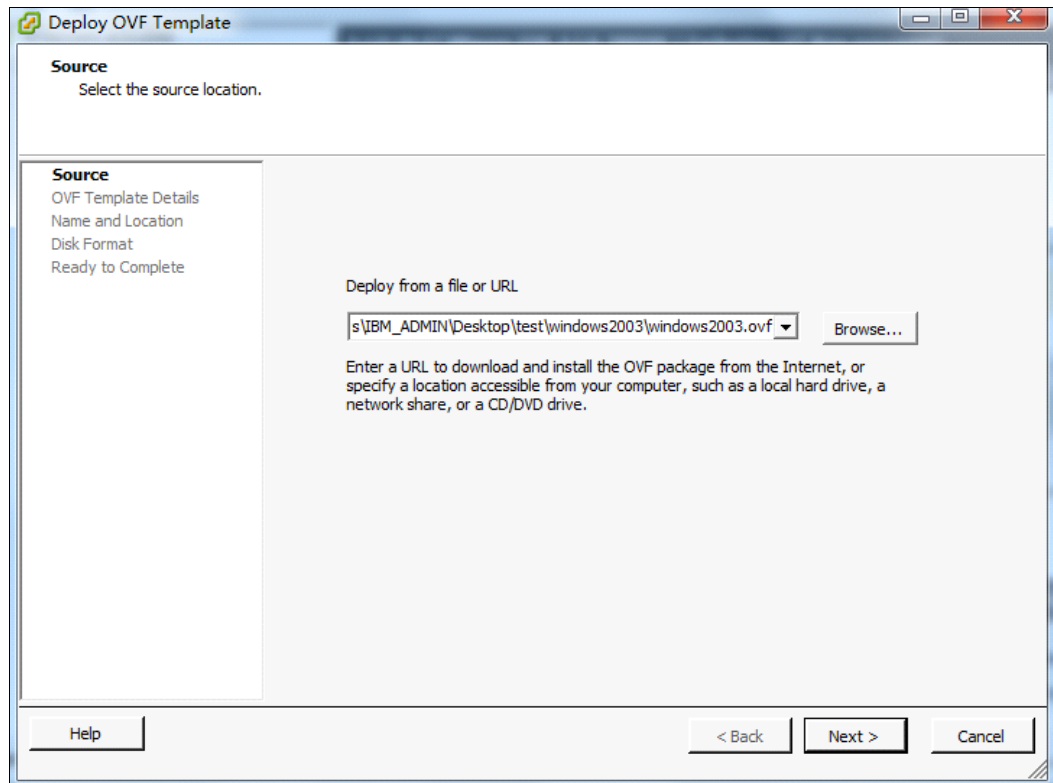

Figure 3-32 Deploy OVF Template
16. A wizard starts, as shown in Figure 3-32. Enter the path of OS images, define the virtual machine names and locations, and choose the disk format. Click **Next**.